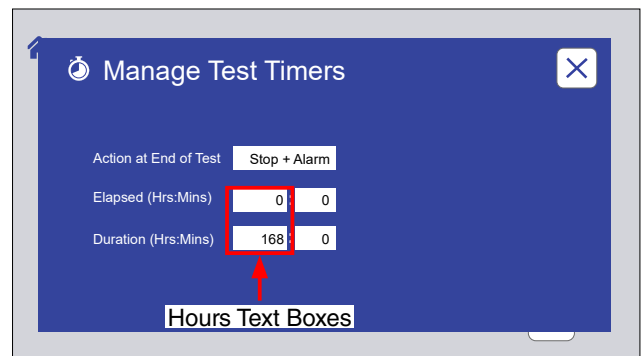

Figure 8.6d: To reset the Elapsed or Duration hours of the current test, touch the hours text box. A numeric keypad will be displayed.
- o Change the elapsed time in hours and minutes for the current test (Figure 8.6d).